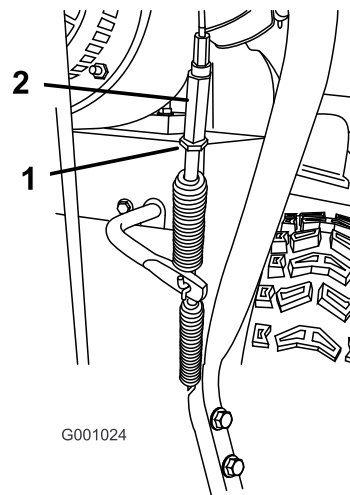

Figure 37
1. Loosen the jam nut (Figure 37).
2. Loosen or tighten the turnbuckle that adjusts the tension on the cable (Figure 37).